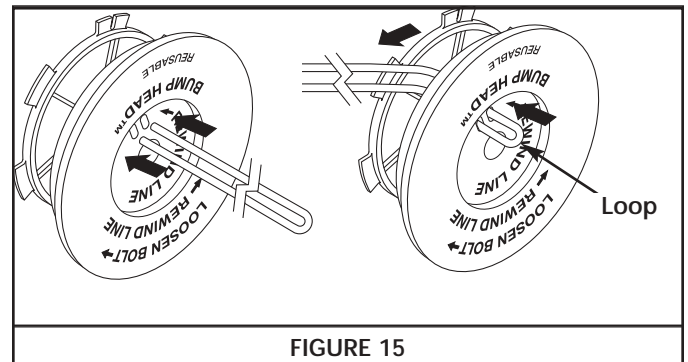

FIGURE 15
6. Take approximately 40 feet (12.2 m) of new trimming line and loop it into two equal lengths. Insert each end of the line through one of the two holes in the inner reel. Pull the line through the inner reel so that the loop is as small as possible. See Figure 15.